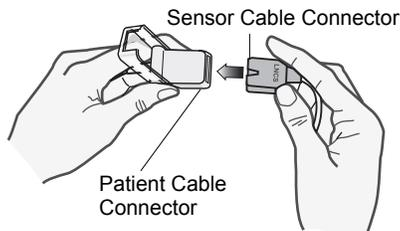

Figure 5
4. Lift the clear plastic protective cover from the female end of the patient cable, then plug the sensor cable's male connector all the way into the patient cable connector (see Figure 5).
6. Lift the clear plastic protective cover from the female end of the patient cable, then plug the sensor cable's male connector all the way into the patient cable connector (see Figure 5).